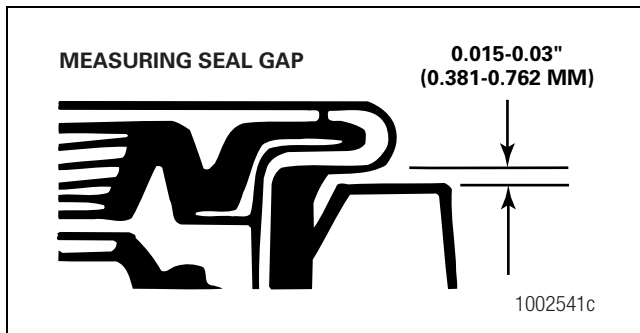

Figure 5.68
- **If the gap varies more than 0.010-inch (0.254 mm) between the highest and lowest measurement:** Remove and reseal the seal. Figure 5.68.